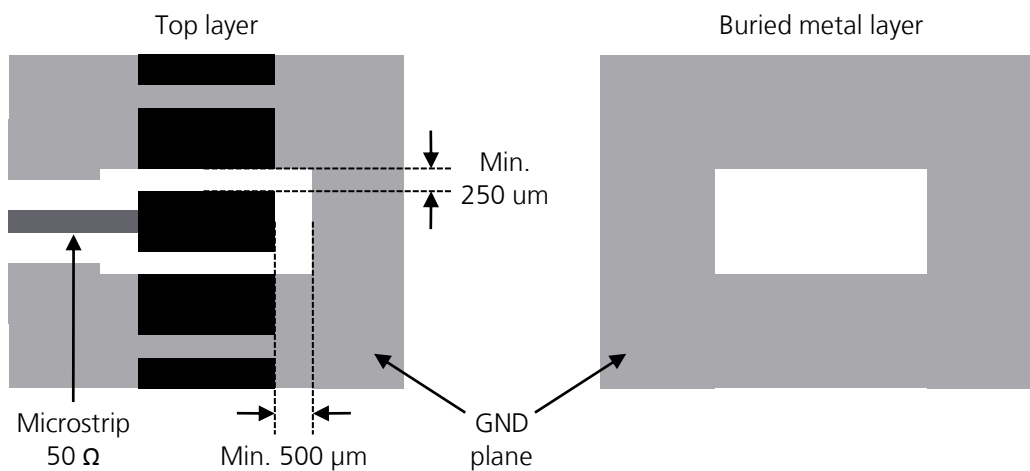

Figure 44: GND keep-out area on the top layer around the ANT pad and on the buried metal layer below the ANT pad
- Increase GND keep-out (i.e. clearance) for **ANT** pin to at least 250 μm up to adjacent pads metal definition and up to 500 μm on the area below the Data Module, as described in Figure 44
- Add GND keep-out (i.e. clearance) on buried metal layers below **ANT** pad and below any other pad of component present on the RF line, if top-layer to buried layer dielectric thickness is below 200 μm , to reduce parasitic capacitance to ground (see Figure 44 for the description keep-out area below **ANT** pad)